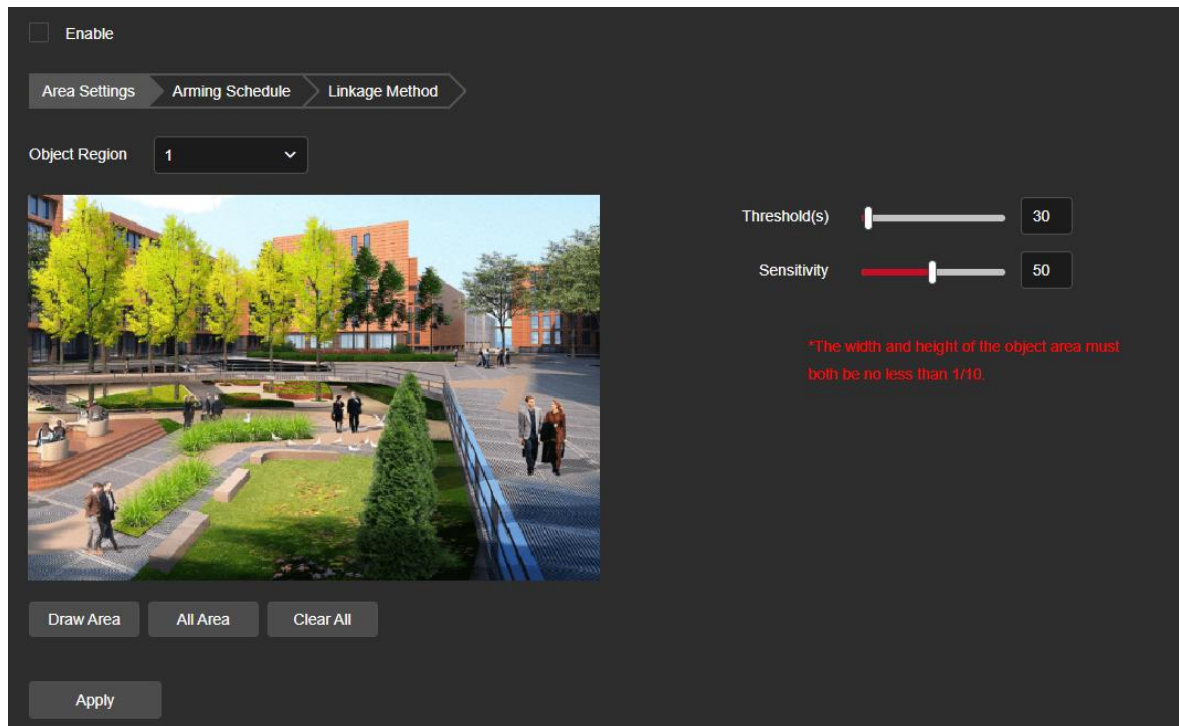

Figure 8-6-54
Step 1: In the main interface click on the "Configuration → Event → Smart Event → Moving Object Detection" to enter the Moving Object Detection settings interface, as shown in Figure 8-6-54.